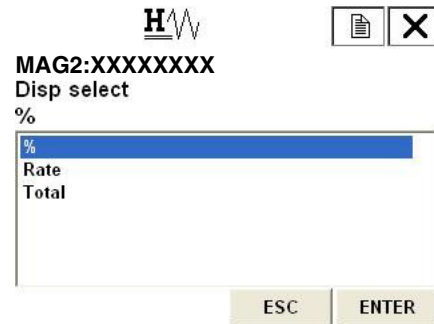

Figure 74.
Figure 74 is then displayed.
2. Once the display as shown in Figure 74 appears, move the arrow key up or down to select a display. After making a selection, press F4 (ENTER). % /Rate /Total can be selected. If F3 (ESC) is pressed here, the selection is canceled and the display returns to the basic menu.